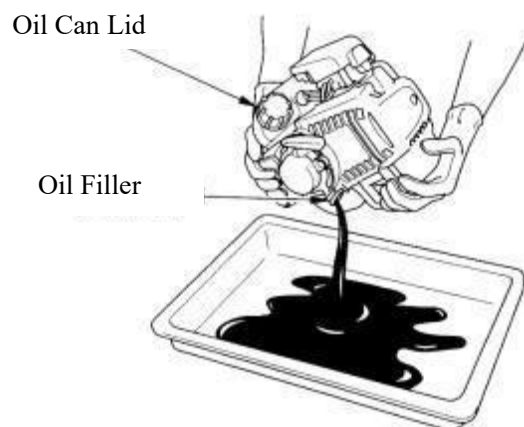

Fig. 12
- d. Remove the oil cap, lean the engine towards the oil filler and dump the engine oil into the tray, as shown in Fig.12.